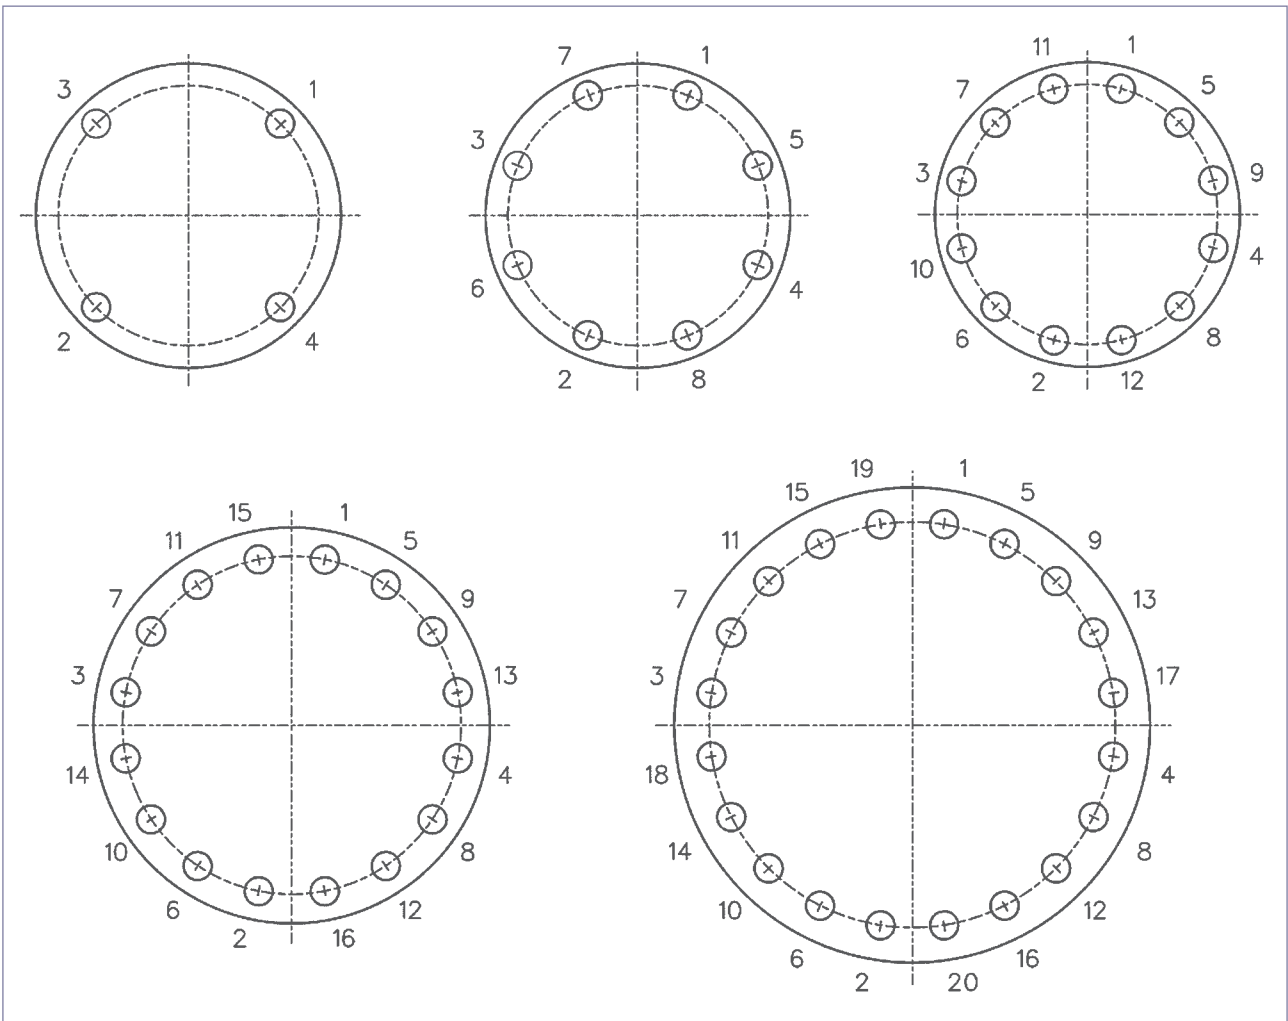

Figure 27 - Bolt Tightening Sequence
Tightening of the bolts of a flange connection must be done according to the diagonal sequence as shown in Figure 27. The flange must be connected perpendicular to the axis of the pipe. GRP flanges must always be installed tension free. Therefore, flanges must be accurately aligned. Pipelines must never be pulled by means of the flange bolts nor mechanical tools (crowbar, jacks, etc.). If a GRP pipe is connected to a metal pipe, this metal line must be anchored to prevent any movements or loads being transmitted to the GRP line. Tightening of the bolts of a flanged joint shall be executed first diagonally, and second clockwise:
- Diagonally as per the bolt torque sequence shown on Figure 27 for flanges with more than 20 bolts, similar alternating bolt tightening sequences shall be used, as detailed in the method statements. Bolts shall be tightened, following the bolt torque sequence, first up to 60% of the recommended value and second up to 100% of the recommended value.